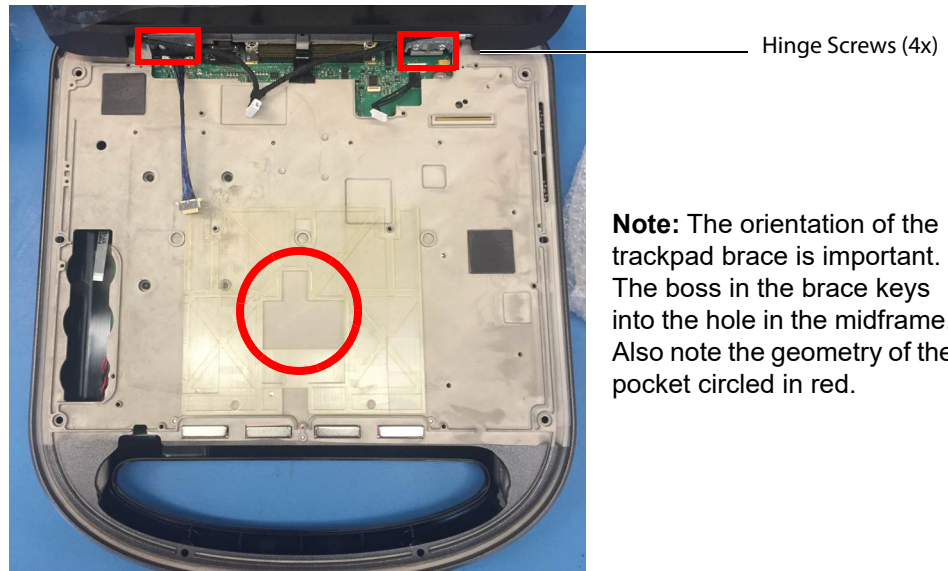

Figure 6.8 Display Screws
- 11 Remove the 4 screws from the LCD display hinges as shown in Figure 6.8 and remove the display LCD.